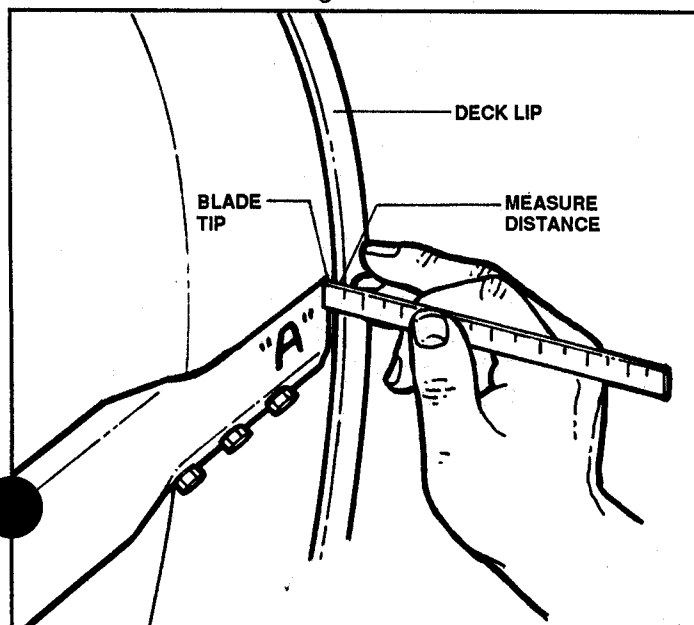

FIGURE 3.11
- C. Turn blade tip "A" to reference mark and measure distance between deck lip and blade. See Figure 3.11.